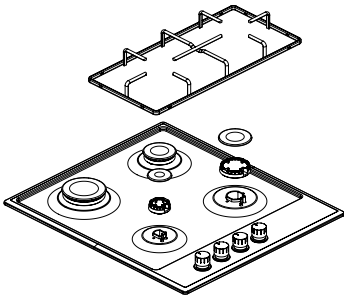

Figure 1
- 1.** Lift the grate, burner cover and burner of the product so that the injector is visible. (See Fig. 1)